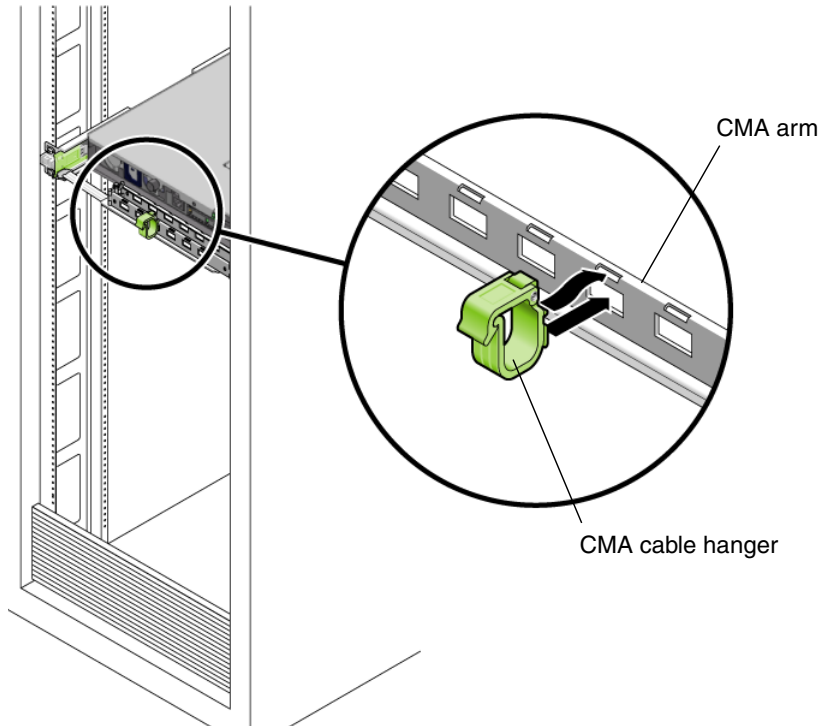

FIGURE C-12 Installing CMA Cable Hangers
8. Position the cable hangers in the appropriate mounting holes in the CMA and snap them into place. (See FIGURE C-12.)